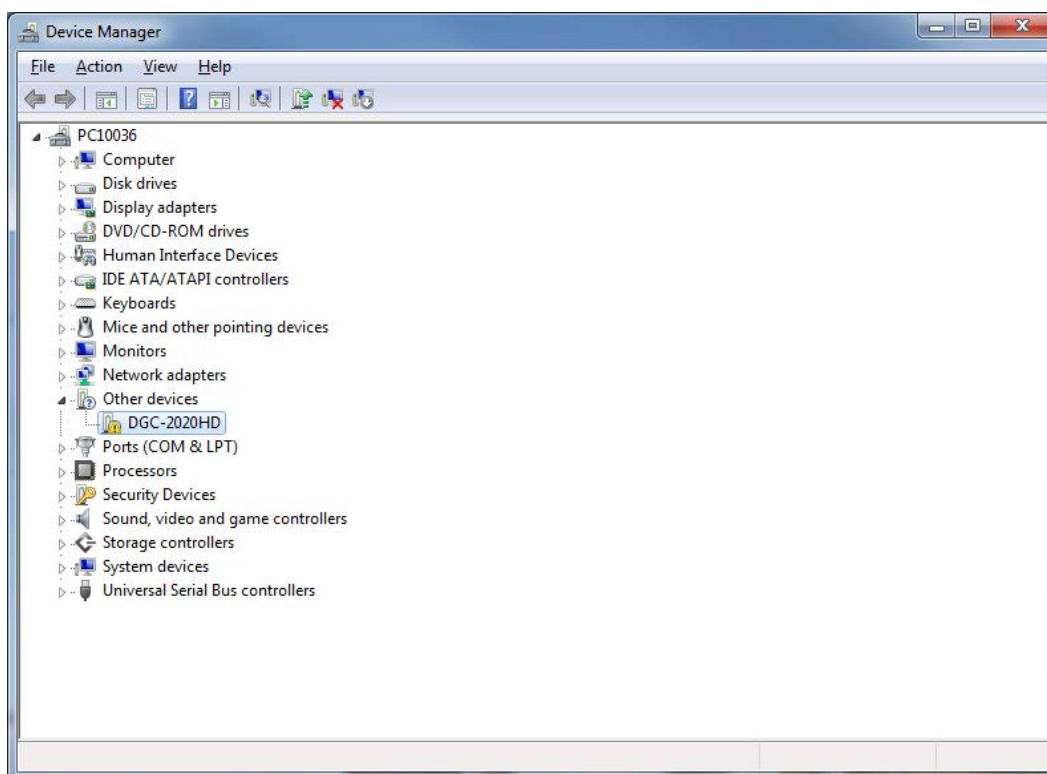

Figure 82. Device Manager
- Step 2. Open the Windows® Device Manager as shown in Figure 82. Right-click on DGC-2020HD (or Unknown Device) under Other Devices and select Properties.